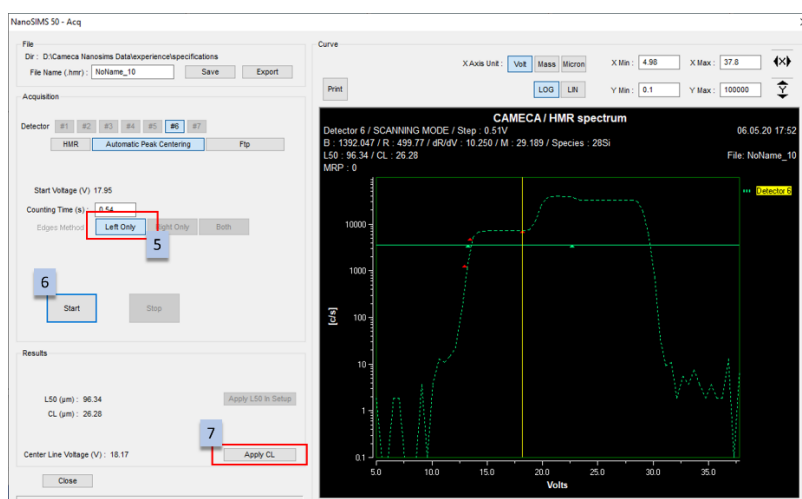

Figure 414: HMR automatic peak centering with peak interference
- b. New options appear (see Figure 414). Select “Automatic Peak Centering”,